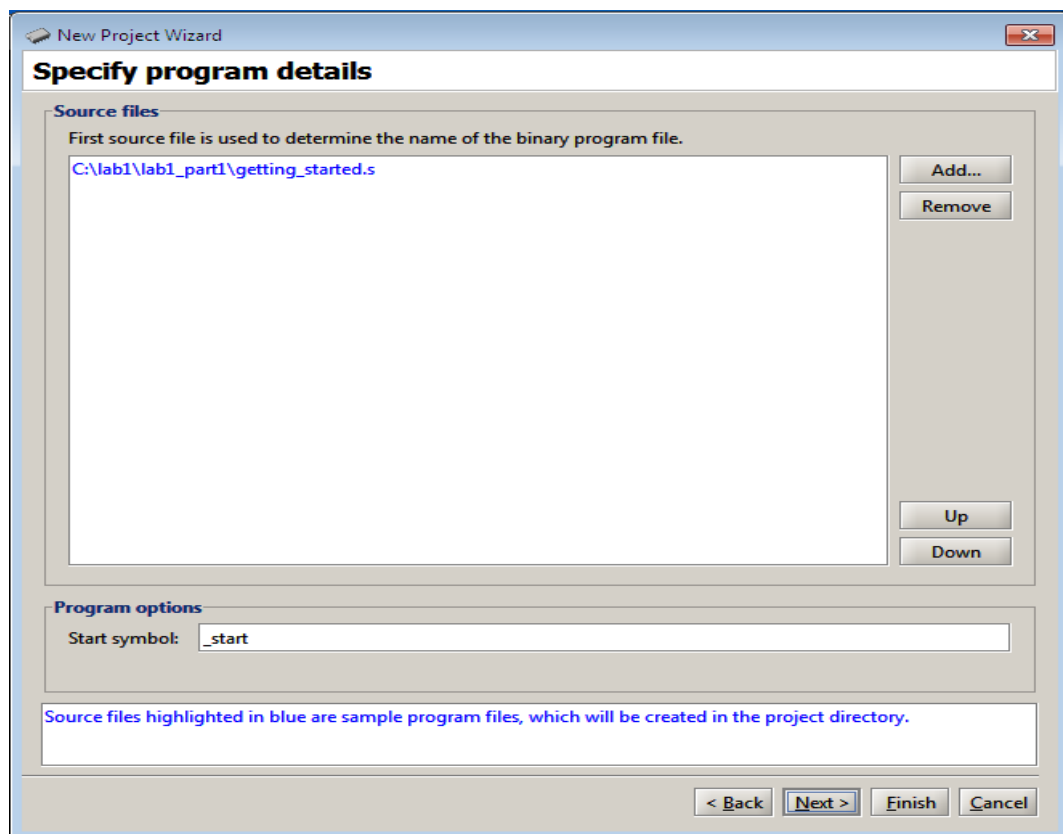
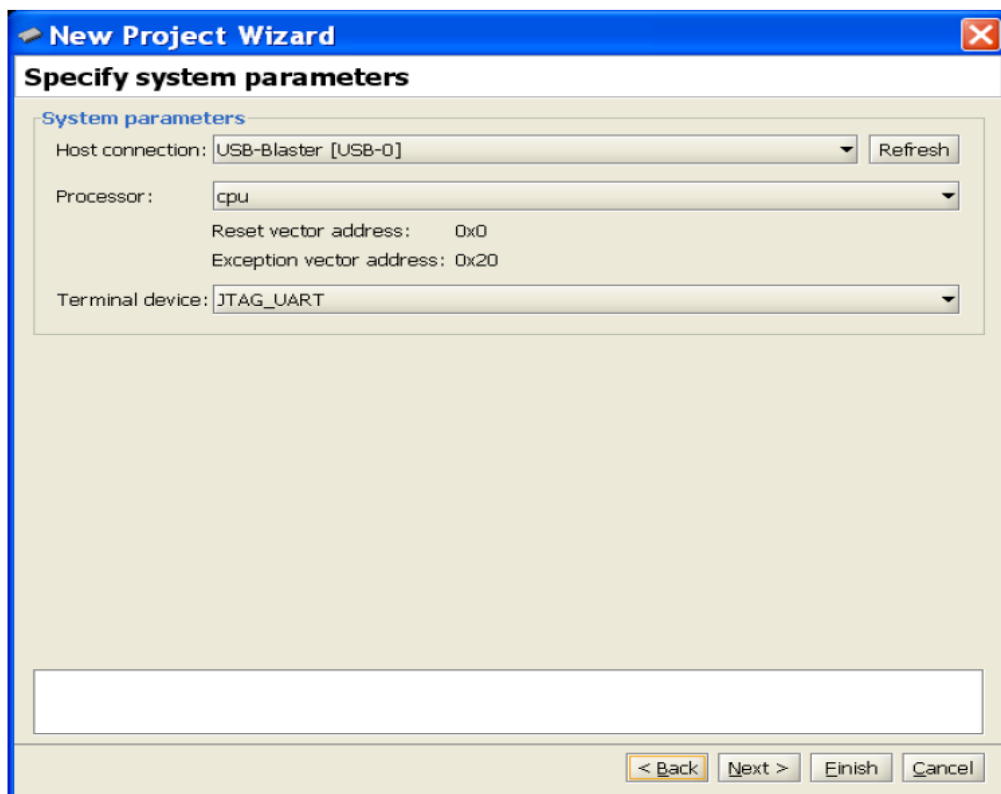
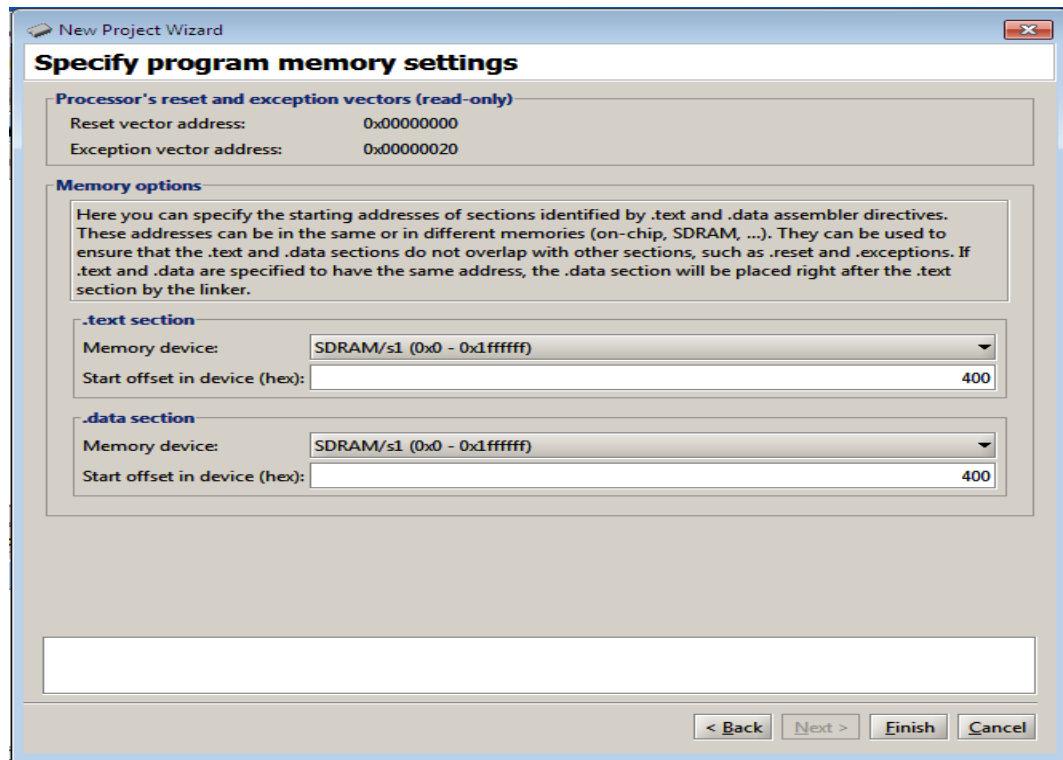
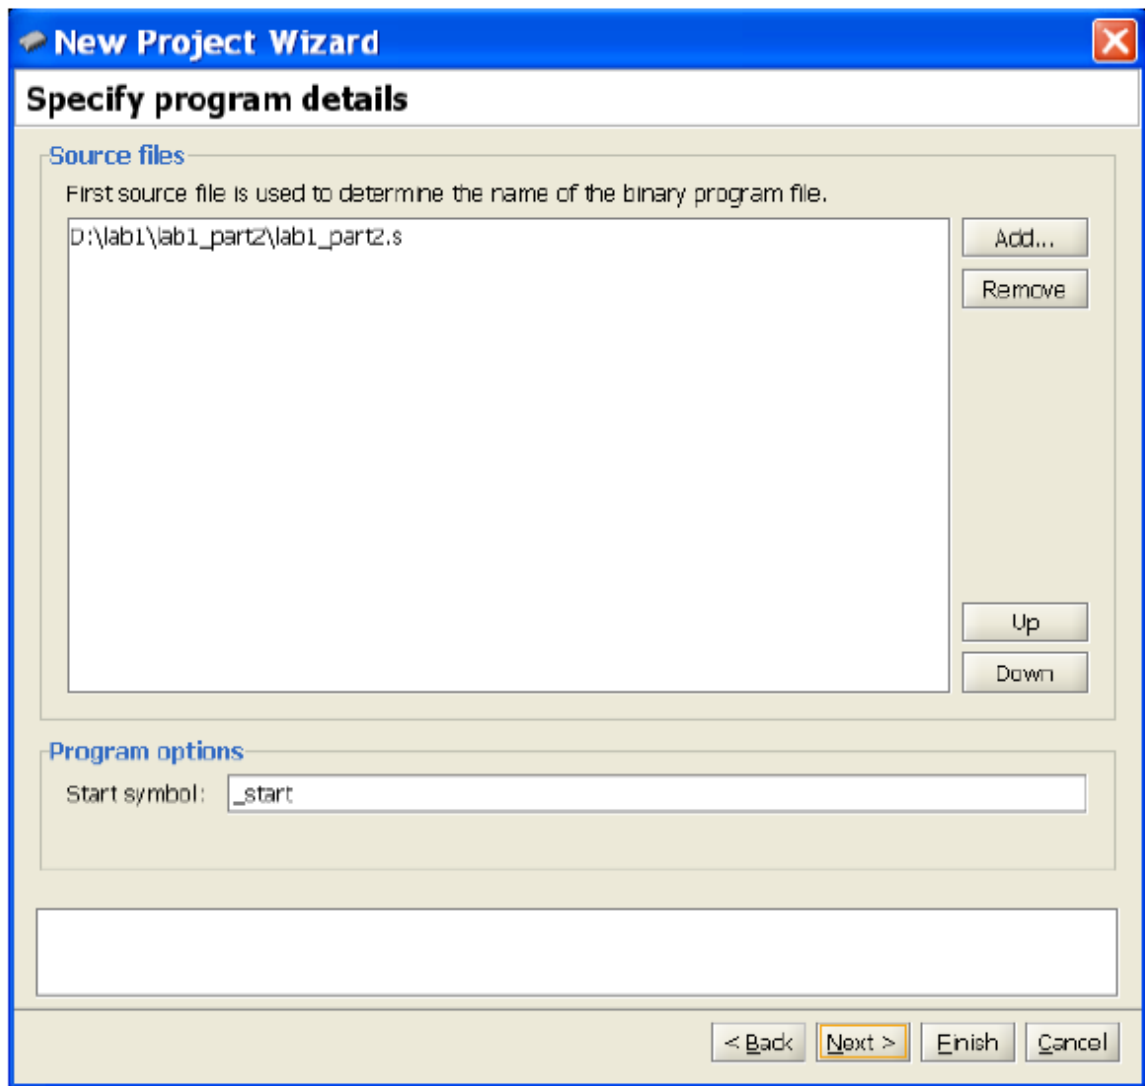

Figure 5: Source files used by the application program.
Figure 6: Specify the system parameters.
Figure 7: Specify the program memory settings..
Figure 12: Select your source program.
5. The window in Figure 5 is used to specify the source file(s) that contain the application program(s). Since we have selected the Getting Started program, the window indicates the files that are used by this program. This window also allows the user to specify the starting point in the selected application program. The default symbol is start, which is used in the selected sample program. Click Next.
6. The window in Figure 6 indicates some system parameters. Note that the USB-Blaster cable is selected to provide the connection between the DE0-Nano board and the host computer. Click Next.
7. The window in Figure 7 displays the preselected components of the DE0-Nano Basic Computer. Observe that the SDRAM is selected as the memory device to be used. The start offset is 0x400 (hex 400), which means that the application program will be loaded in the memory locations that begin at address 400. Since this choice was made by the designer of the sample program, you cannot change the selection in Figure 7. Click Finish to complete the specification of the new project.
3. Upon reaching the window in Figure 5, you have to specify your program. Click Add and in the pop-up box that appears indicate the desired file name, lab1_part2.s, and its location. This should lead to the image in Figure 12. Click Next to get the window in Figure 6. Again click Next to get to the window in Figure 7. Make sure that the SDRAM is selected as the memory device. Note that the Start offset in device will be 0, because the program in Figure 10 does not indicate that it should loaded at a location that is different from the default location 0. Click Finish.